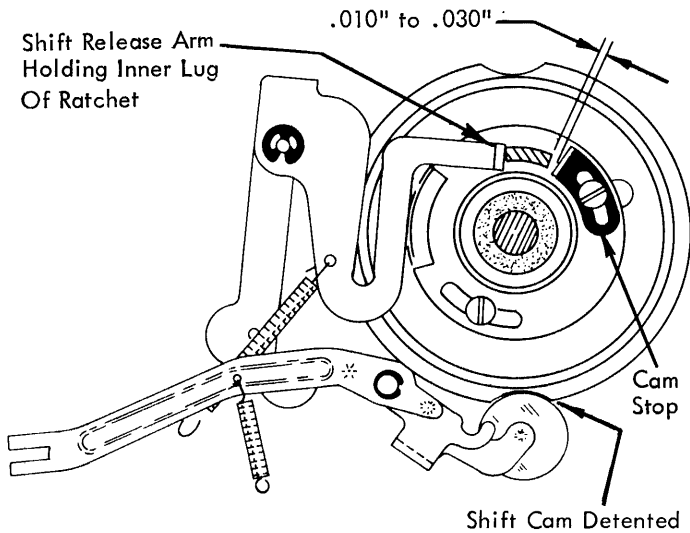

FIGURE 68. Shift Cam Stop Adjustment
3. Shift Cam Stop - Adjust the stop so that the shift clutch ratchet has  $.010''$  to  $.030''$  rotary motion between the shift cam stop and the shift release arm with the mechanism at rest (Fig. 68).